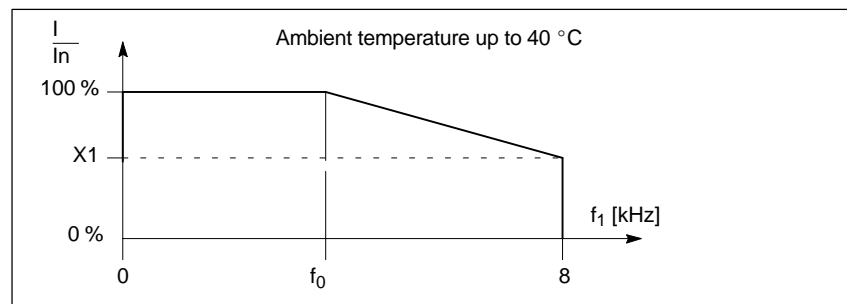

Fig. 4-2 Current de-rating depends on the inverter clock frequency
- 1) X1 = reduction factor of the current, current de-rating from the inverter clock frequency f₀ of the power transistors (Fig. 4-2)
1) X1 = reduction factor of the current, current de-rating from the inverter clock frequency f₀ of the power transistors (Fig. 4-2)